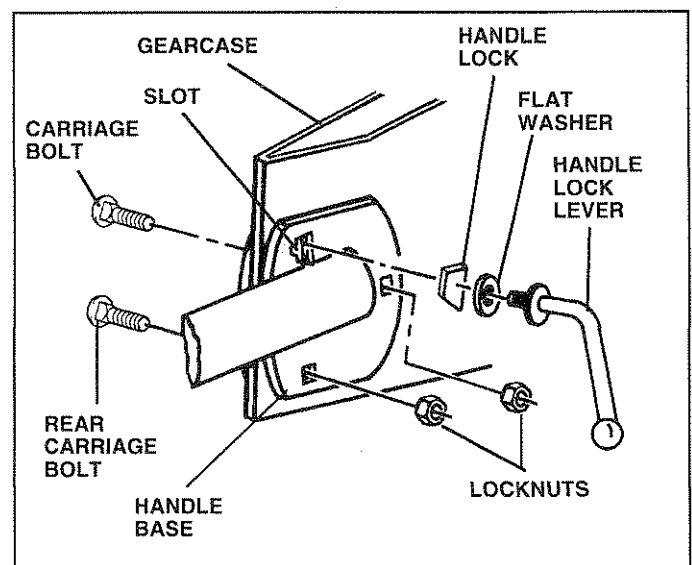

FIG. 5
- Rotate handle assembly down. Insert rear carriage bolt first, with bolt head on L.H. side of tiller (Side Fig. 5).